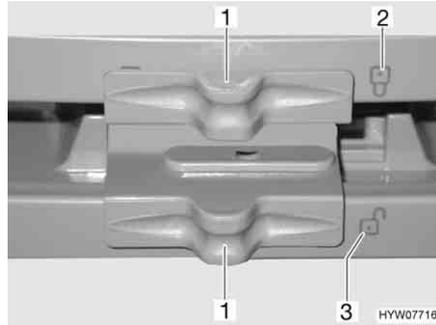

Fig. 213 Locking of the refrigerator door/freezer compartment door (Dometic 7 series with separate freezer compartment)
- Push the lock (Fig. 213,1) to the side, so that the open lock "🔓" (Fig. 213,3) is completely visible.
- Push the lock (Fig. 213,1) to the side, so that the closed lock "🔒" (Fig. 213,2) is completely visible.